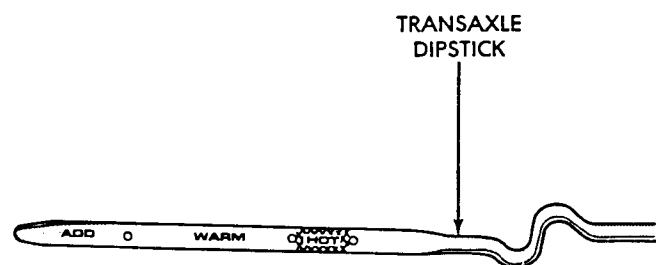

Fig. 3 Dipstick Markings
(1) Raise vehicle on a hoist (See Lubrication, Group 0). Place a drain container with a large opening, under transaxle oil pan.
(2) Loosen pan bolts and tap the pan at one corner to break it loose allowing fluid to drain, then remove the oil pan.
(3) Install a new filter and o-ring on bottom of the valve body and tighten retaining screws to 5 N·m (40 in. lbs.).
(4) Clean the oil pan and magnet. Reinstall pan using new Mopar Silicone Adhesive sealant. Tighten oil pan bolts to 19 N·m (165 in. lbs.).
(5) Pour four quarts of Mopar ATF Plus (Automatic Transmission Fluid) Type 7176 through the dipstick opening.
(6) Start engine and allow to idle for at least one minute. Then, with parking and service brakes applied, move selector lever momentarily to each position, ending in the park or neutral position.
(7) Add sufficient fluid to bring the level 1/4 inch above the bottom hole of the dipstick. Room temperature oil (70°F.) set at this level will expand (when heated to 180°F.) to a level within the hot range (Fig. 3).